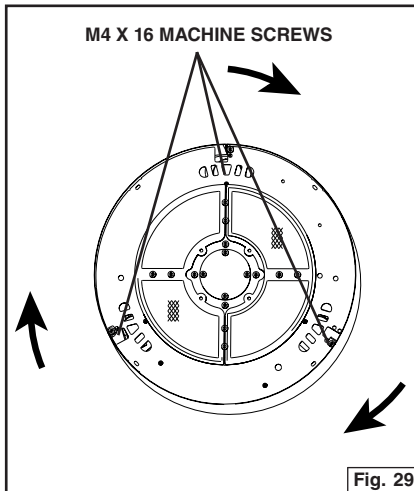

Fig. 29
2. Turn the Decorative Shroud so that the shroud holes match up with the flange holes. Secure the Shroud with (3) M4 x 16 machine screws. Fig. 29. Remove the protective coating. Repeat for the second shroud.